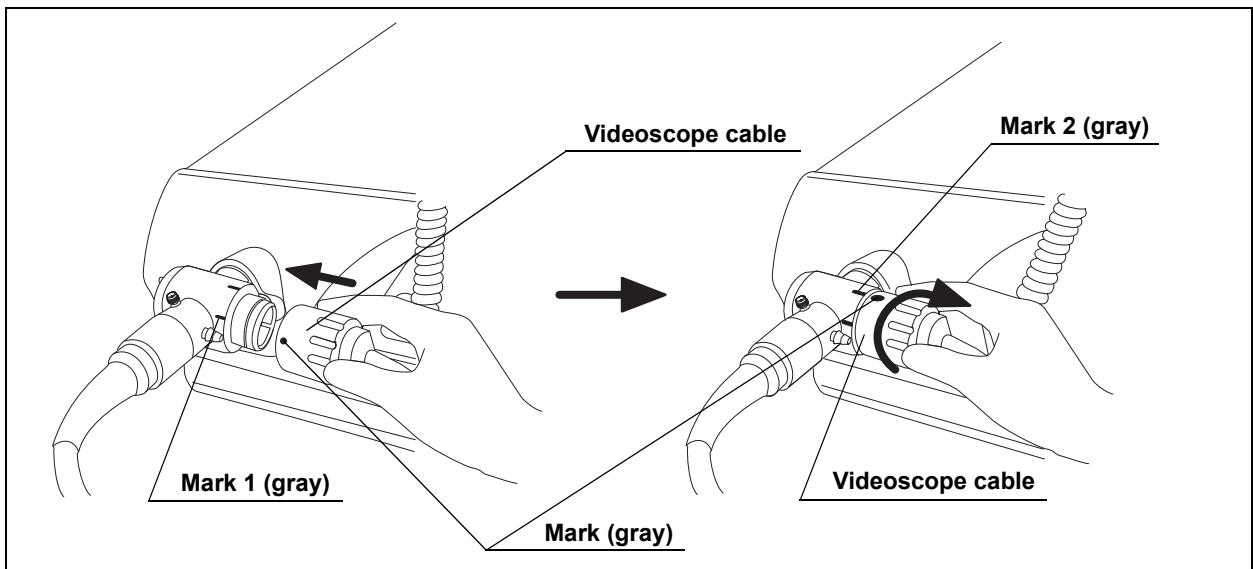

Figure 3.21
7. Align the mark on the videoscope cable LUCERA or 200 with mark 1 on the endoscope connector and push it in until it stops (see Figure 3.21).
8. Turn the connector of the videoscope cable towards mark 2 until it stops (see Figure 3.21).